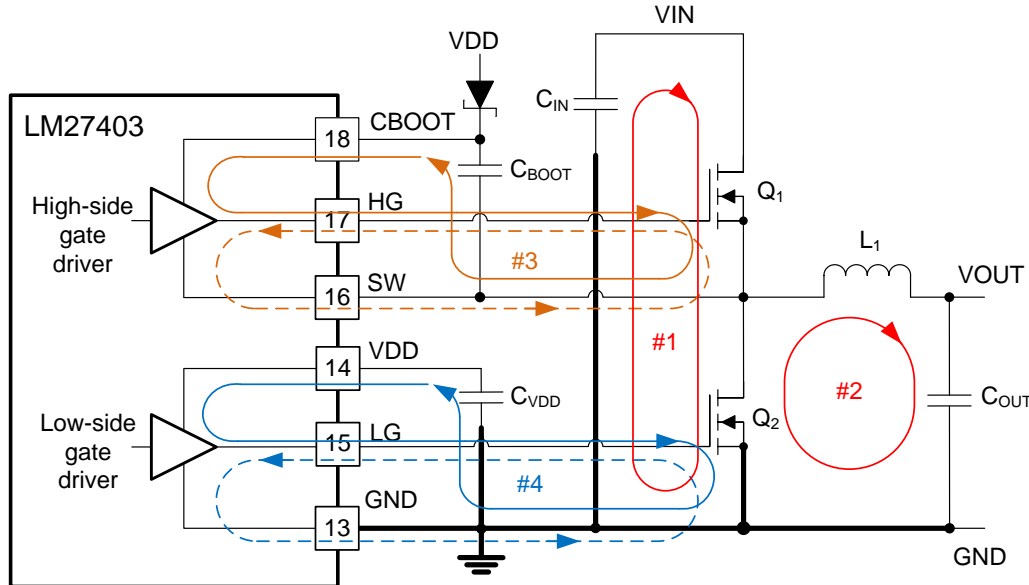

Figure 47. DC-DC Regulator Ground System with Power Stage and Gate Drive Circuit Switching Loops
Proper PCB design and layout is important in a high current, fast switching circuit (with high current and voltage slew rates) to assure appropriate device operation and design robustness. As expected, certain issues must be considered before designing a PCB layout using the LM27403. The main switching loop of the power stage is denoted by #1 in Figure 47. The topological architecture of a buck converter means that particularly high di/dt current will flow in loop #1, and it becomes mandatory to reduce the parasitic inductance of this loop by minimizing its effective loop area. For loop #2 however, the di/dt through inductor L_1 and capacitor C_{OUT} is naturally limited by the inductor. Keeping the area of loop #2 small is not nearly as important as that of loop #1. Also important are the gate drive loops of the low-side and high-side MOSFETs, denoted by #3 and #4, respectively, in Figure 47.
- Loop #1: The most important loop to minimize the area of is the path from the input capacitor(s) through the high- and low-side MOSFETs, and back to the capacitor(s) through the ground connection. Connect the input capacitor(s) negative terminal close to the source of the low-side MOSFET (at ground). Similarly, connect the input capacitor(s) positive terminal close to the drain of the high-side MOSFET (at VIN). Refer to loop #1 of Figure 47.
- Loop #2: The second important loop is the path from the low-side MOSFET through inductor and output capacitor(s), and back to source of the low-side MOSFET through ground. Connect source of the low-side MOSFET and negative terminal of the output capacitor(s) at ground as close as possible. Refer to loop #2 of Figure 47.
- The SW pin connects to the switch node of the power conversion stage, and it acts as the return path for the high-side gate driver. The parasitic inductance inherent to loop #1 in Figure 47 and the output capacitance (C_{OSS}) of both power MOSFETs form a resonant circuit that induces high frequency (>100 MHz) ringing on the SW node. The voltage peak of this ringing, if not controlled, can be significantly higher than the input voltage. Ensure that the peak ringing amplitude does not exceed the absolute maximum rating limit for the SW pin. In many cases, a series resistor and capacitor snubber network connected from the SW node to GND damps the ringing and decreases the peak amplitude. Provide provisions for snubber network components in the printed circuit board layout. If testing reveals that the ringing amplitude at the SW pin is excessive, then include snubber components.
- Loop #3: high-side MOSFET, Q_1 . During the high-side MOSFET turn on, high current flows from the boot capacitor through the gate driver and high-side MOSFET, and back to negative terminal of the boot capacitor through the SW connection. Conversely, to turn off the high-side MOSFET, high current flows from gate of the high-side MOSFET through the gate driver and SW, and back to source of the high-side MOSFET through the SW trace. Refer to loop #3 of Figure 47.
- Loop #4: low-side MOSFET, Q_2 . During the low-side MOSFET turn on, high current flows from VDD decoupling capacitor through the gate driver and low-side MOSFET, and back to negative terminal of the capacitor through ground. Conversely, to turn off the low-side MOSFET, high current flows from gate of the low-side MOSFET through the gate driver and GND, and back to source of the low-side MOSFET through ground. Refer to loop #4 of Figure 47.